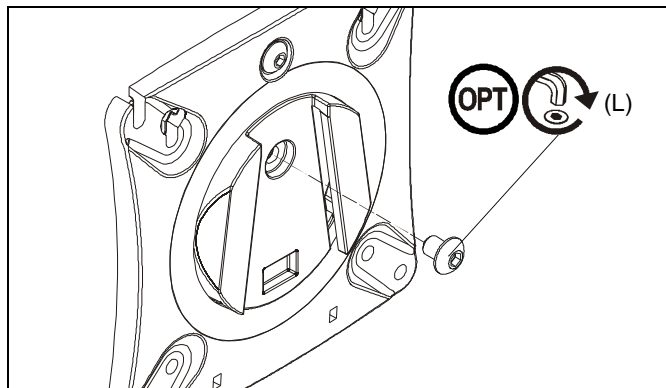

Figure 13
NOTE: (Optional) Rotational adjustment may be locked by installing rotational locking screw (L) into back of faceplate. (See Figure 13)